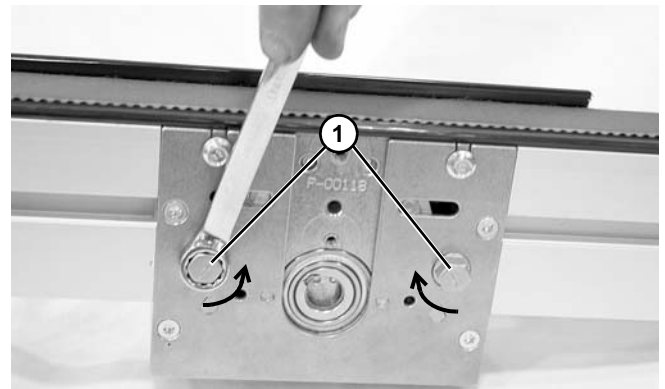

Figure 33
- Rotate tensioner cams (**Figure 33, item 1**) in the direction indicated to release tension on belt.